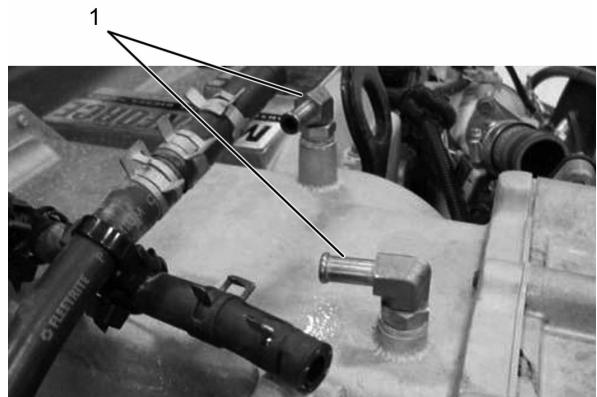

Figure 13
19. Remove two EGR cooler air bleed fittings (Figure 13, Item 1) from EGR cooler.